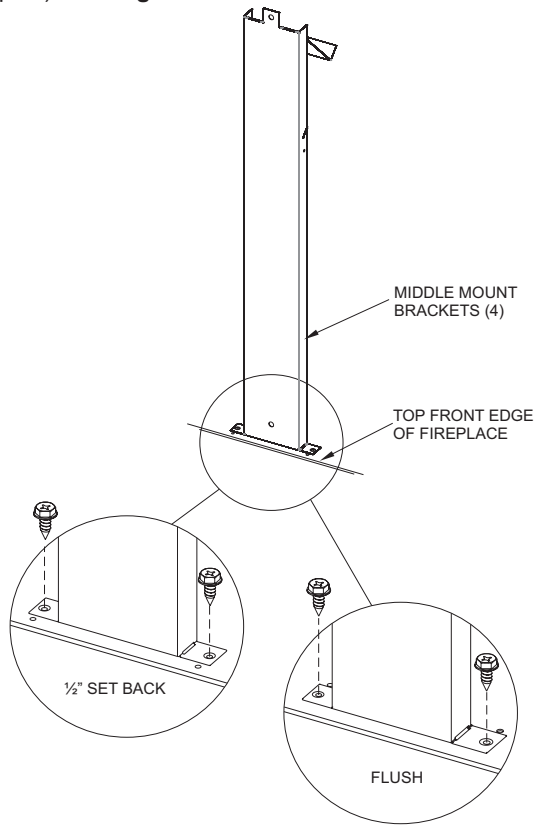

Figure 29
4. Attach the four middle mount framing brackets to the top front edge of the fireplace. These brackets support the supplied non-combustible board above the fireplace. Preset depth to suit facing material (flush or 1/2 inch set back depths). See Figure 29.